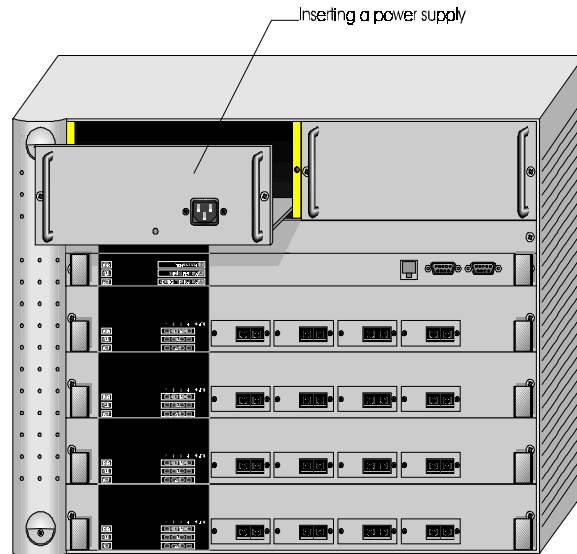

Figure 3 Hot-Swapping a Redundant Power Supply
- 2 Loosen the screws at the extreme right and left of the power supply, near the handles (see Figure 3).